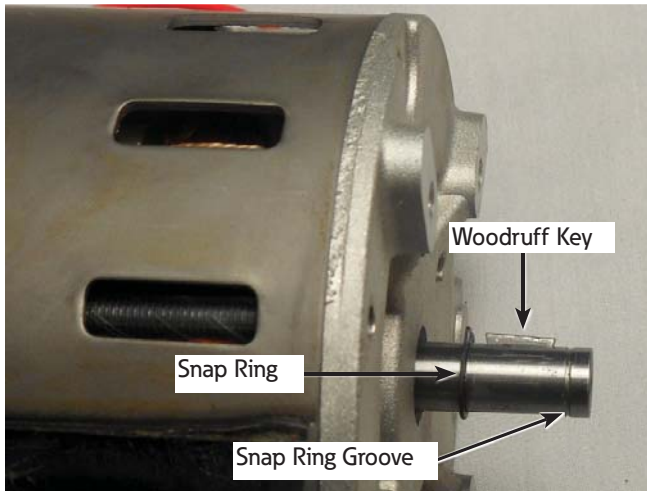

Figure 9. Woodruff key placement
9. The new motor kit has a 12-tooth sprocket (black) for the phenolic QD8 tap-changer and an 11-tooth sprocket (silver) for the polymer QD8 tap-changer. The motor shaft has two snap ring grooves and a Woodruff keyway. Install a snap ring with a snap ring pliers into the inner snap ring groove behind the Woodruff keyway. Using a pliers, squeeze the Woodruff key into the keyway with the Woodruff key tilted slightly down towards the end of the motor shaft. Refer to Figure 9.